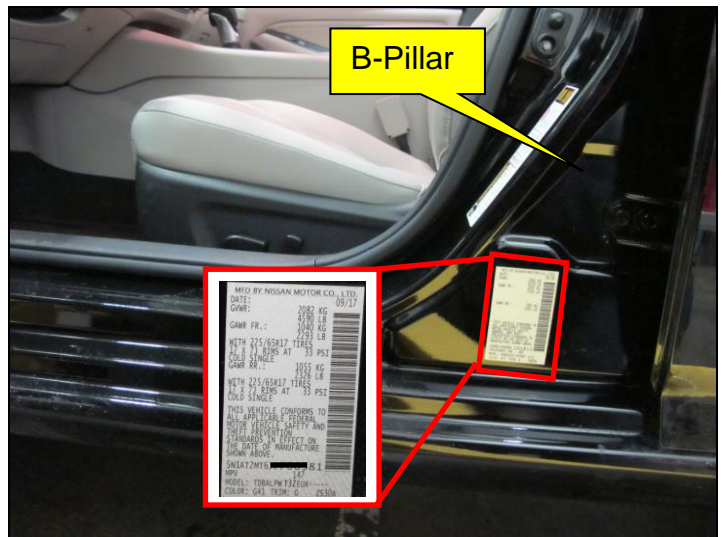

Figure 1
1. Verify VIN of affected Altima (Figure 1).